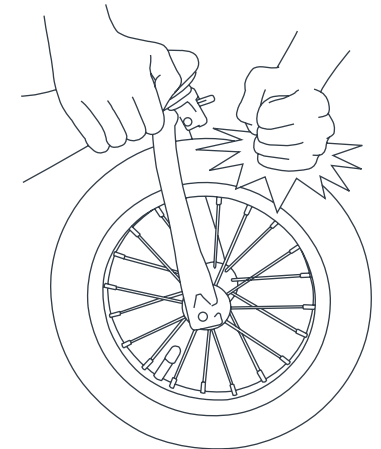

Fig. 20
- 20)** • Lift the front wheel off of the ground and sharply strike the top of the tire (Fig. 20). The wheel should not be loose or come off.